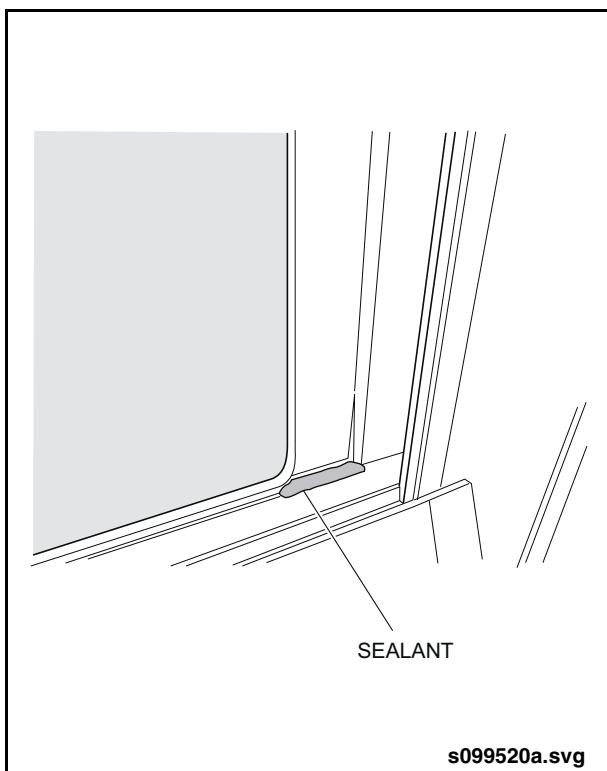

Fig. 14-24: Transom Joint Seal
7. Seal the inside of the window at the frame/transom joint. The sash will have to be removed to inspect this area of the window. See "Fig. 14-24: Transom Joint Seal" on page 28.